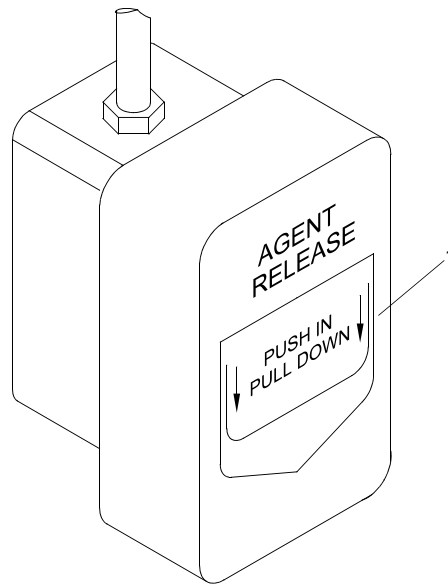

Figure 2. Manual Release
2. Push in and pull down lever (figure 2, item 1) to activate fire suppression system. A twenty second delay will occur before CO2 is discharged.